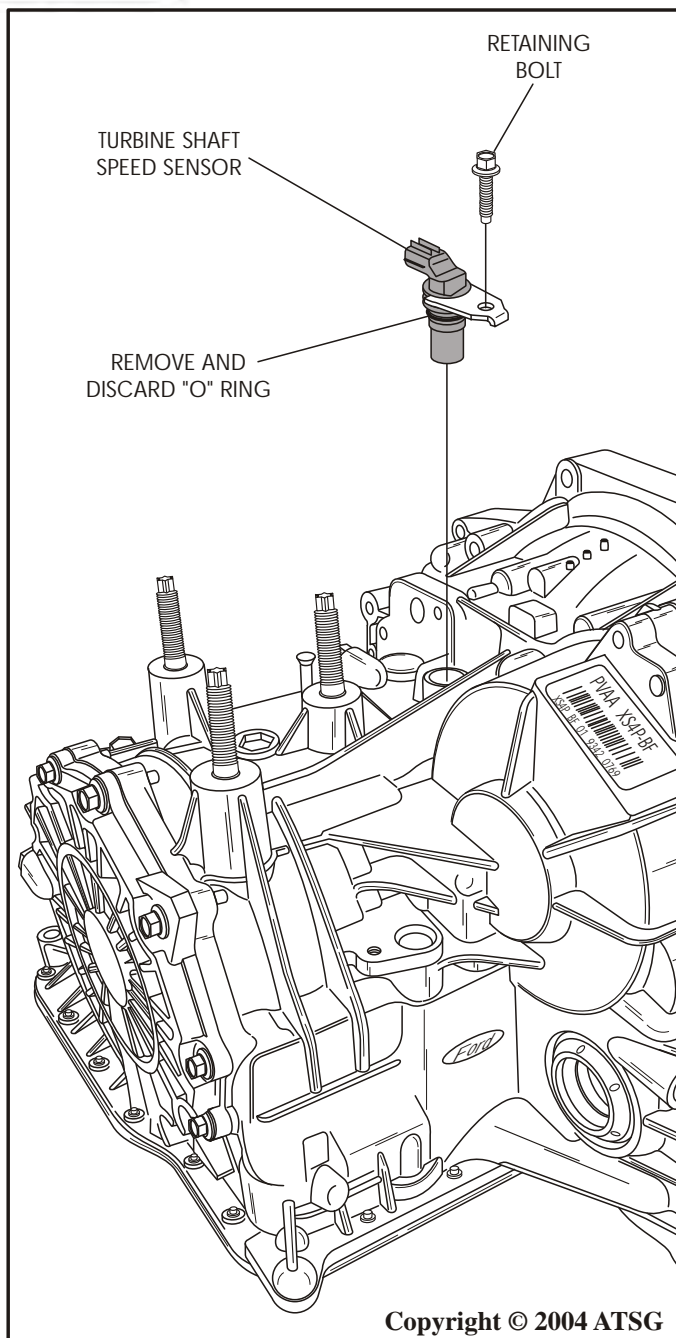

Figure 16
3. Remove the turbine shaft speed sensor from the case, as shown in Figure 16.